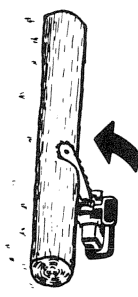

FIG. 28
4. Log Supported along Entire Length. Cut from top (overbuck) being careful to avoid cutting earth. (FIG. 28)